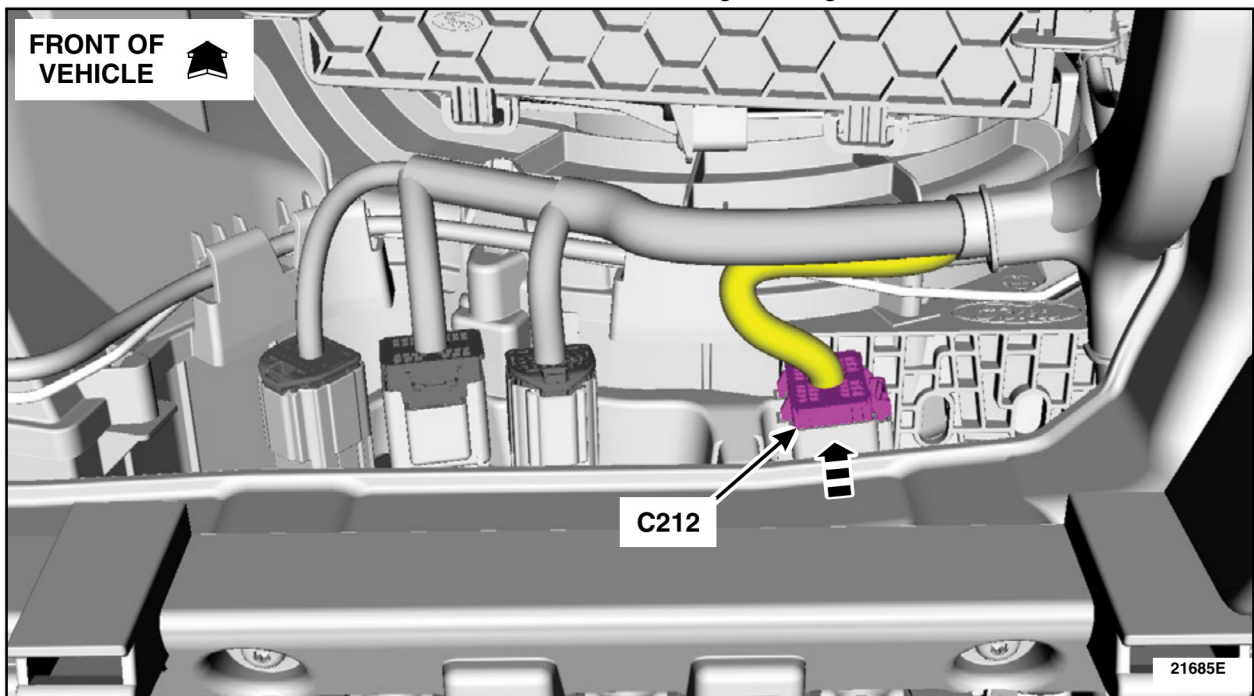

FIGURE 5
9. Locate and disconnect C212 on the climate control housing. See Figure 5.